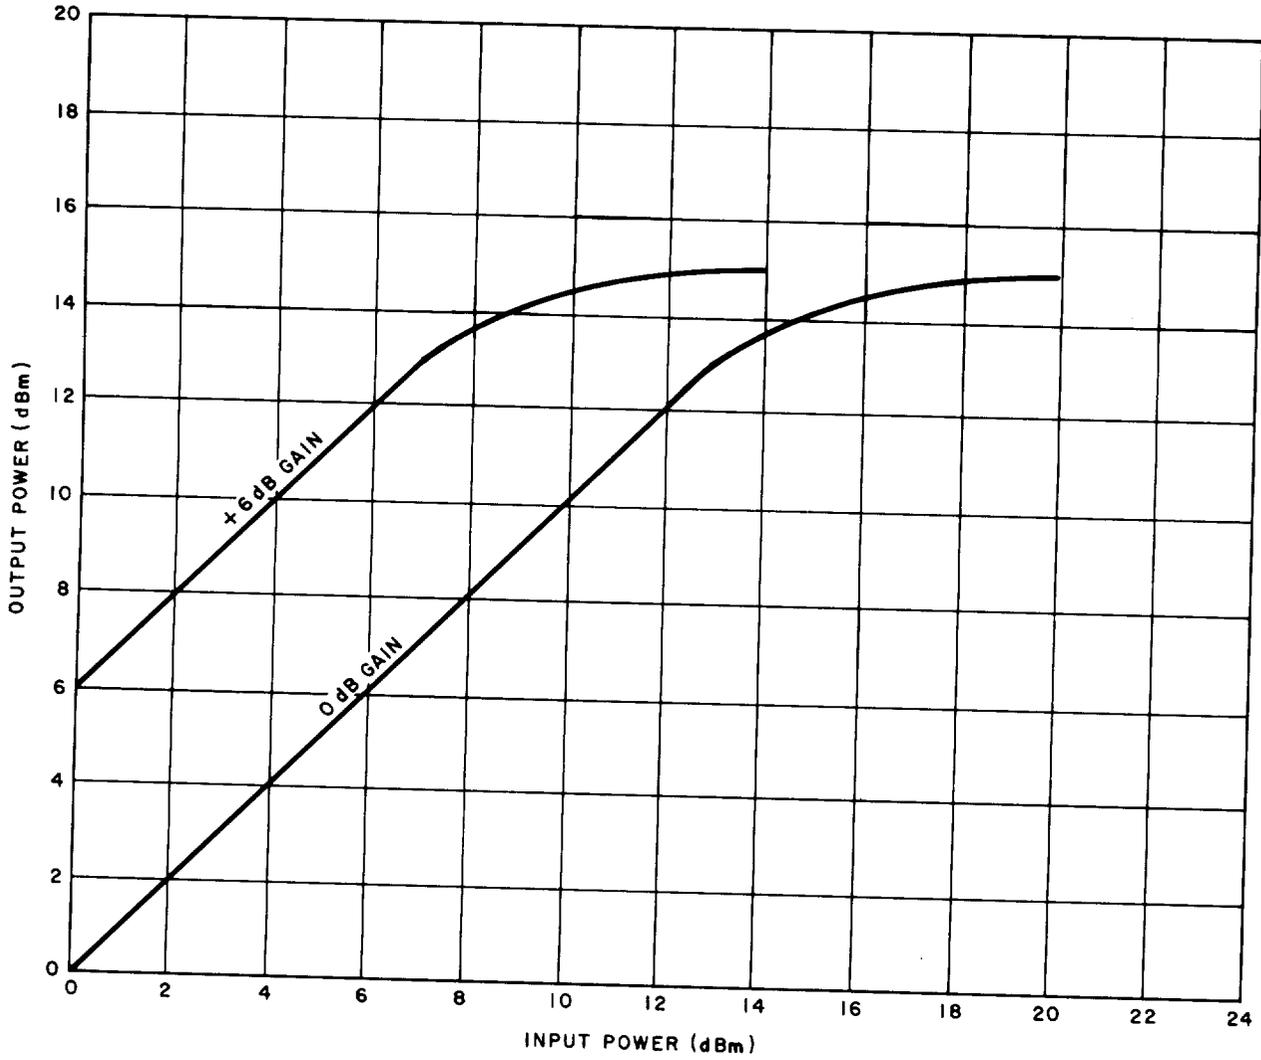

Fig. 5—Output Power Capability of the J99343GB CFU
3.05 Figure 5 shows the output power capability of the J99343GB CFU. The output power is determined by input power and repeater gain, as shown by the +6 dB gain line in the figure. Power limiting occurs in this unit at about 13.5 dBm.